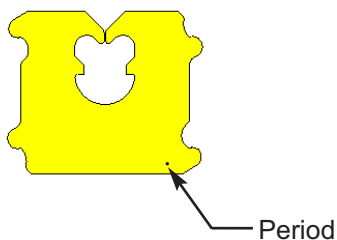
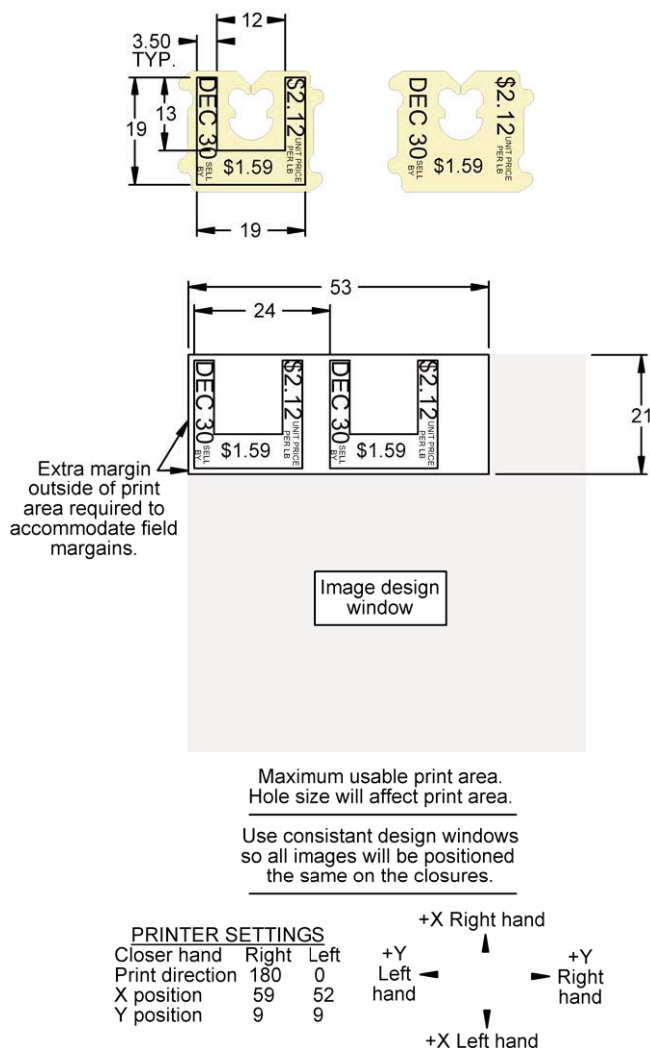
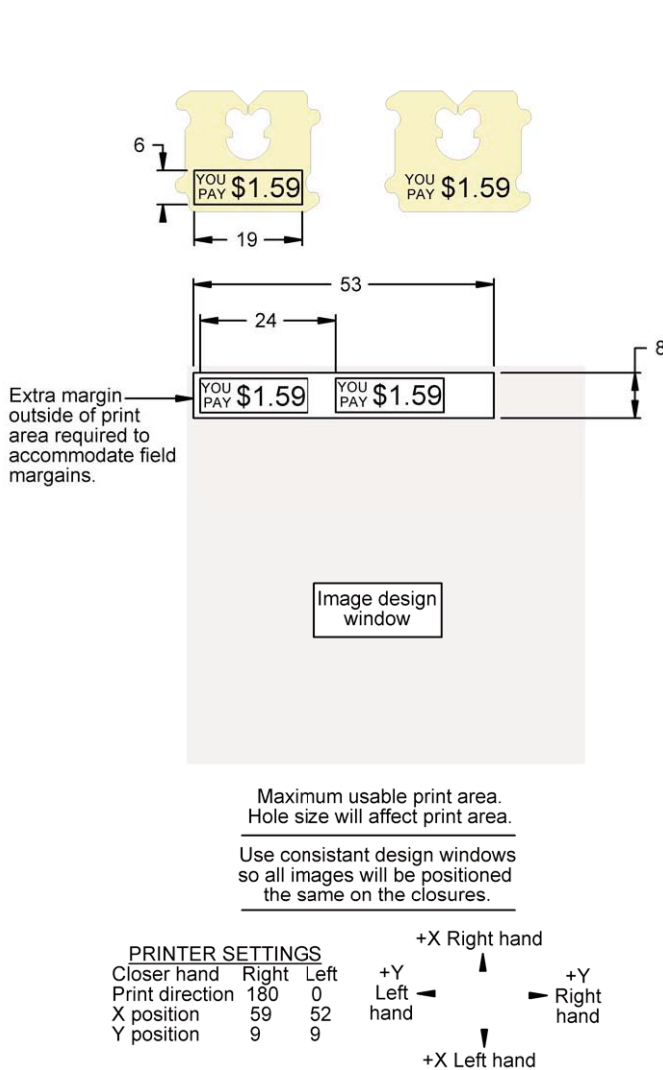

Figure 3.9
Figure 3.10
Figure 3.11
G. DESIGNING IMAGE FORMATS: Figures 3.10 - 3.14
4. Add text or other information to the image using the CoLOS Manual Section 4 "Create and Download Image" as a guide. The printer prints on two closures at a time. Design the image layout for two closures as shown in Figure 3.10 to 3.14. The printer cycles every other time the closer cycles.
5. Dimensions shown in Figures 3.10 to 3.14 are approximate starting points. Print the image on the closure and adjust the text placement as needed.
6. The printer locates the image based on the first dot of printed material. The printer registration must be adjusted each time a print image is changed between the layout shown in Figure 3.10 and the layout shown in Figure 3.11. To reduce the printer registration adjustments, insert a period in the print text as shown in Figure 3.9. The period will cause the text to correctly print at the bottom of the closure using the same registration setting as Figure 3.10.
Figures 3.10 and 3.14)